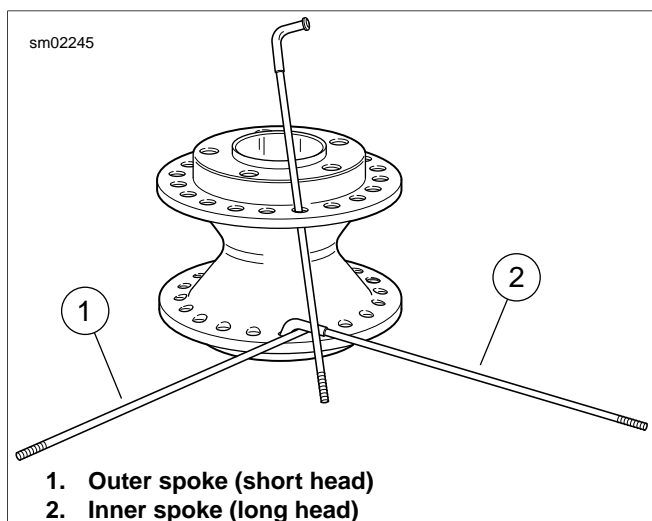

Figure 2-30. Lacing 19 Inch Wheel Hub
3. See Figure 2-30. Place hub on bench with the primary brake disc side up. Insert one outer spoke (short head) into any bottom flange hole and swing it clockwise. Insert an inner spoke (long head) in the next hole to the left of the outer spoke. Swing the inner spoke counterclockwise over the outer spoke.